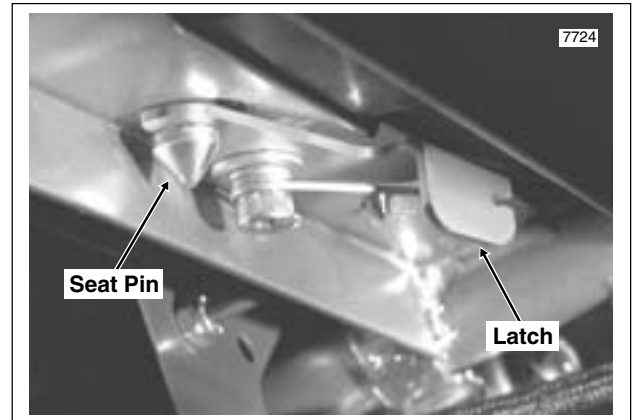

Figure 4-1. Remove Seat
1. Remove seat. Depress latch at bottom and pull seat up and back to remove. See Figure 4-1.